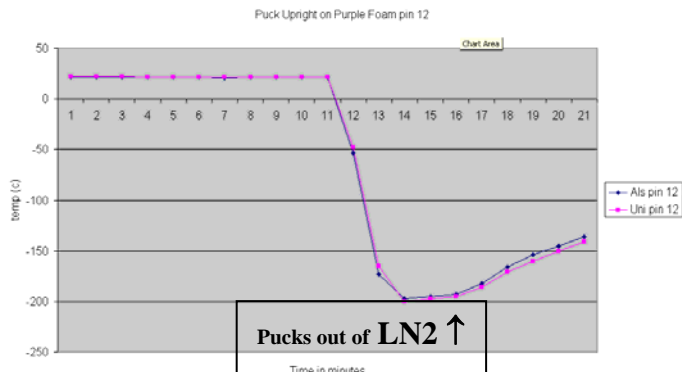

Fig. 1 Puck cooling down and warming up
- if you don't have ready LN2 bath for the puck and you take out your puck from the holder on the beamline bench, with the magnetic base up, you'll see temperature fall off inside of your puck as shown in Fig.1. If you place the puck with the magnetic base down you have only ~1.5min to bring the puck into LN2 bath.